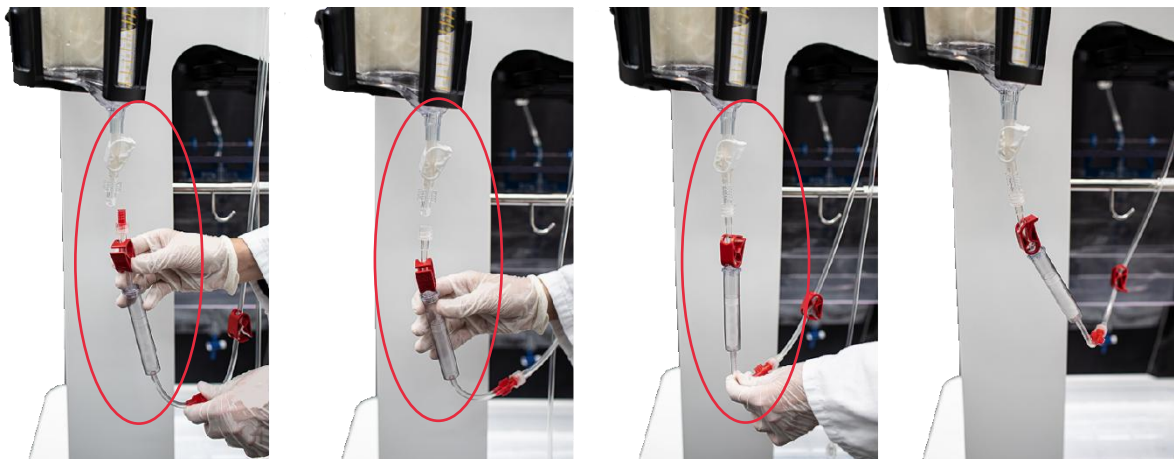

Figure 87: Connection with the Treatment Set
- Close the clamps on the Collection Line and then connect the Collection Line for the i-SEP Autotransfusion Treatment Set to the i-SEP BCR by screwing on 2 Luer connectors (See Figure 87).